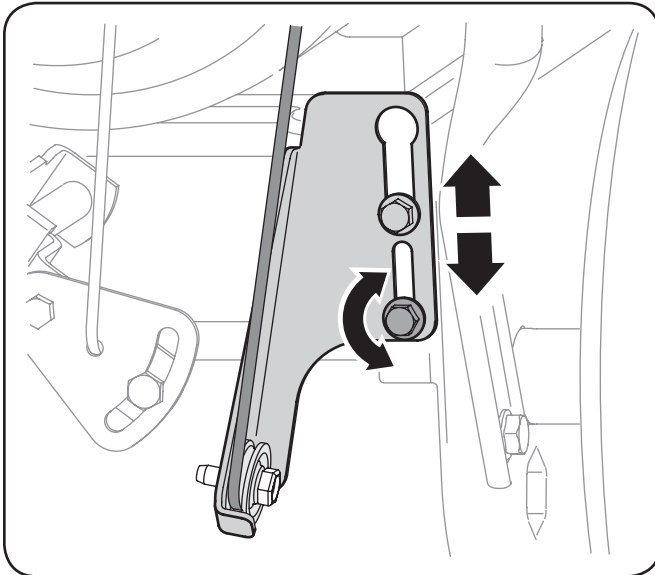

Figure 6-6
2. Loosen the lower hex screw on the drive cable bracket. See Figure 6-6.